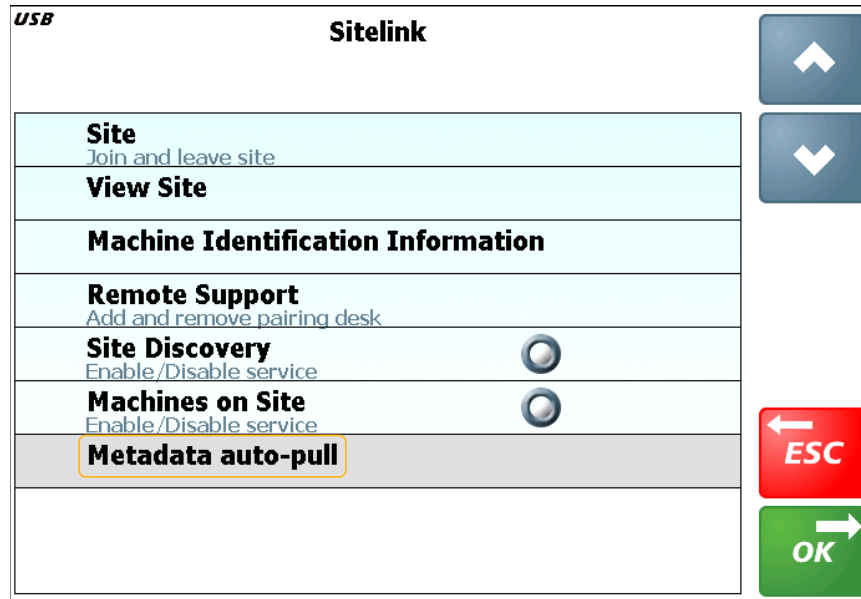

Figure 7-2: Load Weighing Display Sitelink Screen
4. Select **Sitelink**, then select **OK** to open the **Sitelink** screen (Figure 7-2).